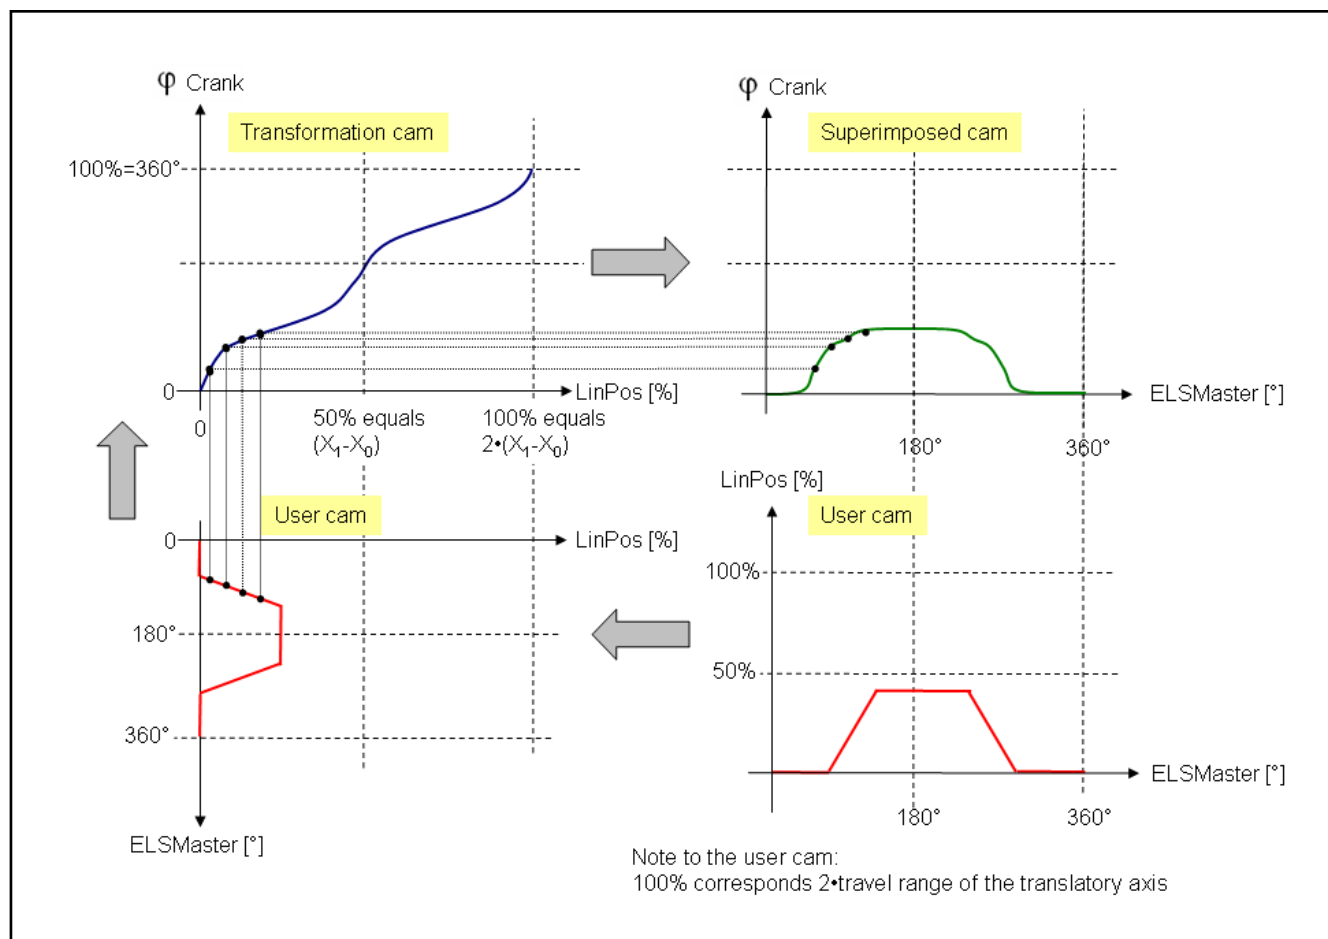

Fig. 6-22: Principle of the cam superimposition
The superimposition principle is shown in fig. 6-22 "Principle of the cam superimposition" on page 416. The user defined cam has to contain 1,024 data points and has to define the movement of the translatory axis in relation to the master axis (irrespective of the crank kinematics).
2. Output of a superimposed cam by the function block MB_CamTableCrankSuperimposed. It was calculated with the superimposition of a user-defined cam in a transformation cam (see fig. 6-22 "Principle of the cam superimposition" on page 416).